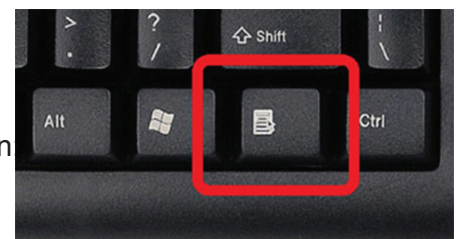

Fig.6.30 - Button Menu
- To press the **Menu** button (fig.6.30) or (**Shift + F10**) combination